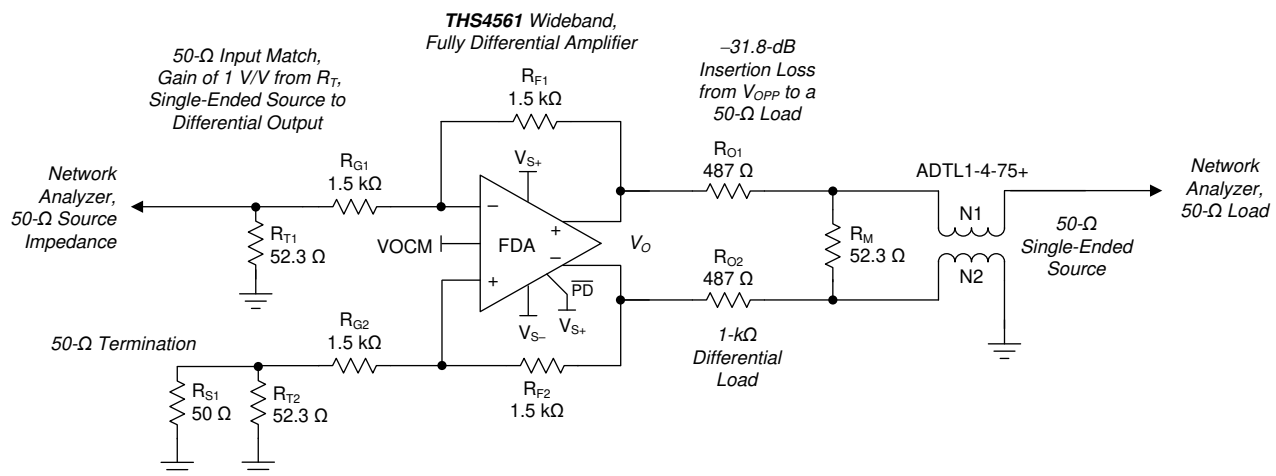

图 8-1. Single-Ended Source to a Differential Gain of a 1-V/V Test Circuit
at $T_A \approx 25^\circ\text{C}$, VOCM pin = open, $R_F = 1.5\text{ k}\Omega$, $R_L = 1\text{ k}\Omega$, $V_O = 2\text{ V}_{PP}$, 50- Ω input match, $G = 1\text{ V/V}$, $\overline{PD} = V_{S+}$, single-ended input (SE-in), differential output (diff-out), and input and output referenced to default midsupply for AC-coupled tests (unless otherwise noted); see Figure 8-1 for a gain of 1-V/V test circuit.
at $T_A \approx 25^\circ\text{C}$, VOCM pin = open, $R_F = 1.5\text{ k}\Omega$, $R_L = 1\text{ k}\Omega$, $V_O = 2\text{ V}_{PP}$, 50- Ω input match, $G = 1\text{ V/V}$, $\overline{PD} = V_{S+}$, single-ended input (SE-in), differential output (diff-out), and input and output referenced to default midsupply for AC-coupled tests (unless otherwise noted); see 图 8-1 for a gain of 1-V/V test circuit.
$V_O = 200\text{ mV}_{PP}$, see 图 8-1 and 表 10-1 for resistor values
See 图 8-1
$V_O = 200\text{ mV}_{PP}$, see 图 8-1 with R_L adjusted
at $T_A \approx 25^\circ\text{C}$, VOCM pin = open, $R_F = 1.5\text{ k}\Omega$, $R_L = 1\text{ k}\Omega$, $V_O = 2\text{ V}_{PP}$, 50- Ω input match, $G = 1\text{ V/V}$, $\overline{PD} = V_{S+}$, single-ended input, differential output, and input and output referenced to default midsupply for AC-coupled tests (unless otherwise noted); see 图 8-1 for a gain of 1-V/V test circuit.
at $T_A \approx 25^\circ\text{C}$, VOCM pin = open, $R_F = 1.5\text{ k}\Omega$, $R_L = 1\text{ k}\Omega$, $V_O = 2\text{ V}_{PP}$, $50\text{-}\Omega$ input match, $G = 1\text{ V/V}$, $\overline{PD} = V_{S+}$, single-ended input, differential output, and input and output referenced to default midsupply for AC-coupled tests (unless otherwise noted); see 图 8-1 for a gain of 1-V/V test circuit.
at $T_A \approx 25^\circ\text{C}$, VOCM pin = open, $R_F = 1.5\text{ k}\Omega$, $R_L = 1\text{ k}\Omega$, $V_O = 2\text{ V}_{PP}$, $50\text{-}\Omega$ input match, $G = 1\text{ V/V}$, $\overline{\text{PD}} = V_{S+}$, single-ended input, differential output, and input and output referenced to default midsupply for AC-coupled tests (unless otherwise noted); see 图 8-1 for a gain of 1-V/V test circuit.
The characterization circuits are typically operated with a single-ended, matched, 50-Ω, input termination to a differential output at the FDA output pins because most lab equipment is single-ended. The FDA differential output is then translated back to single-ended through a variety of baluns (or transformers) depending on the test and frequency range. DC-coupled step response testing uses two 50-Ω scope inputs with trace math to measure the differential output. Single-supply operation is most common in end equipment designs. However, using split balanced supplies allows simple ground referenced testing without adding further blocking capacitors in the signal path beyond those capacitors already within the test equipment. The starting point for any single-ended input to differential output measurements (such as any of the frequency response curves) is shown in 图 8-1.
Most characterization plots fix the R_F ($R_{F1} = R_{F2}$) value at 1.5 kΩ, as shown in 图 8-1. This element value is flexible in application, but 1.5 kΩ provides a good compromise for the parasitic issues linked to this value, specifically:
- Added output loading: The FDA functions similarly to an inverting op amp design with feedback resistors appearing as an added load across the outputs (the approximate total differential load in 图 8-1 is $1.5 \text{ k}\Omega \parallel 1 \text{ k}\Omega = 857 \text{ }\Omega$). The 1.5-kΩ value reduces the power dissipated in the feedback networks.
The frequency domain characterization curves start with the circuit and component selections of 图 8-1. Some of the features in this test circuit include:
- Translating from a $1\text{-k}\Omega$ differential load to a $50\text{-}\Omega$ environment introduces considerable insertion loss in the measurements (-31.8 dB in 图 8-1). The measurement path insertion loss normalizes when reporting the frequency response curves to show the gain response to the FDA output pins.
Starting from the test circuit of 图 8-1, various elements are modified to show the effect of these elements over a range of design targets, specifically:
- Resistive and capacitive output load testing. Changing to lower resistive loads is accomplished by adding parallel resistors across the output pins in 图 8-1. Changing to capacitive loads adds series output resistors to a differential capacitance before the 1-k Ω sense path of 图 8-1.